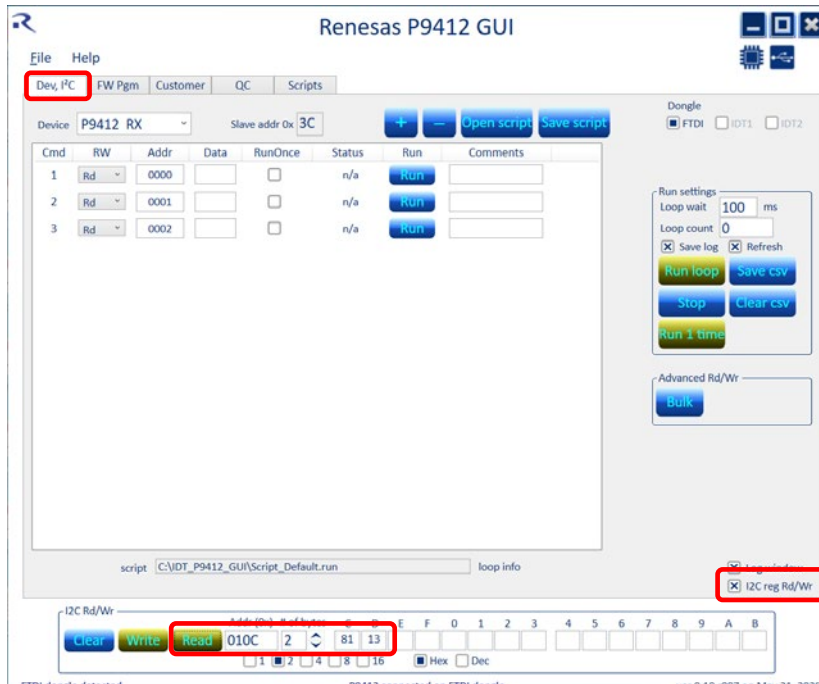

Figure 12. I2C Read / Write Registers
| Figure 12. | I2C Read / Write Registers..... | 13 |
2. To read and write specific registers, select the “Dev, I2C” tab and click the “I2C reg Rd/Wr” box. The I2C Rd/Wr block will stay accessible when different tabs are selected (see Figure 12).